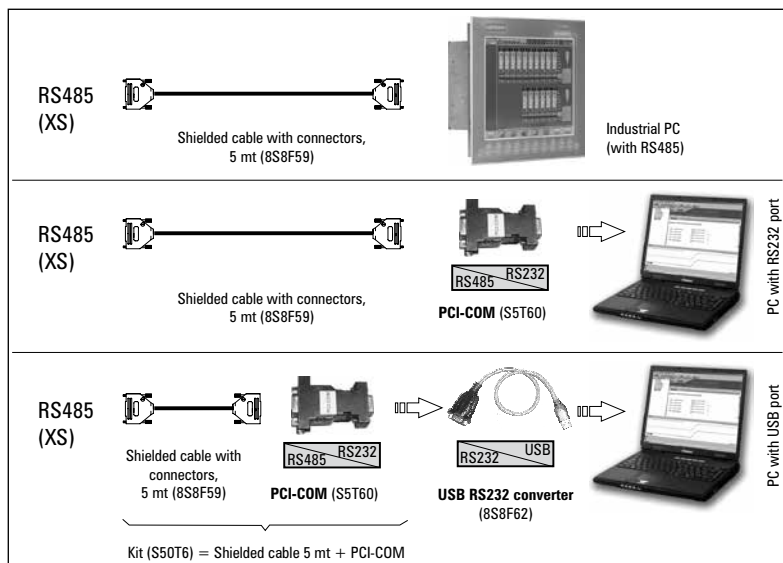

Figure 5.3.1.2: Collegamento RS485 al PC
- shielded cable for the **XS / RS485** connection (see figure 5.3.1.1), code 8S8F59
- shielded cable for **XS / PCI-COM** (or PCI-485) connection, code 8S8F59, see figure 5.3.1.1 .
- shielded cable for the **XS / PCI-COM** (or PCI-485) connection, code 8S8F59, see figure 5.3.1.1 .